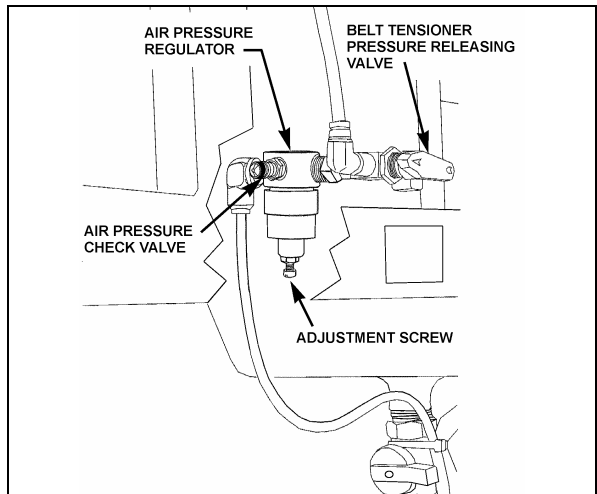

FIGURE 11: BELT TENSIONER VALVE 12200
4. Locate the A/C compressor belt tensioner pressure releasing valve (Fig. 11). Turn pressure releasing valve handle counterclockwise in order to release pressure in belt-tensioner air bellows and loosen belts. Remove the belts.